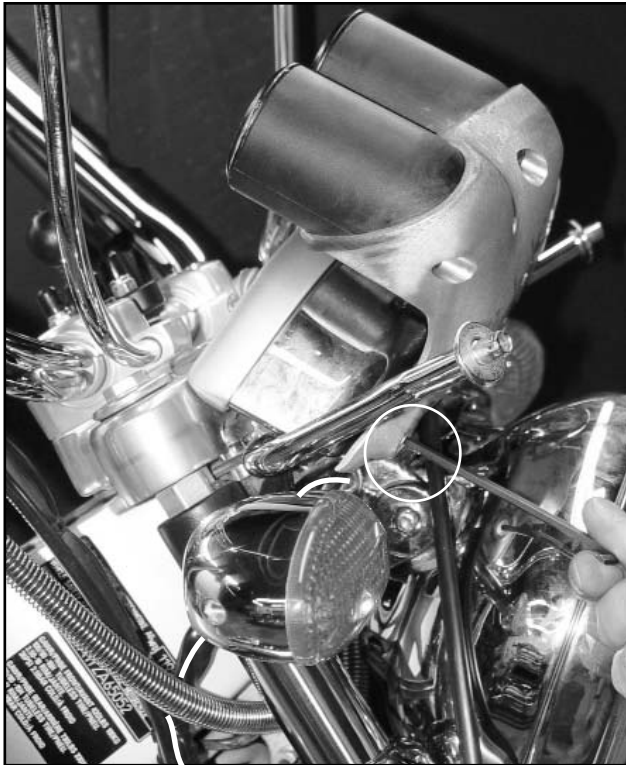

Figure 13
2. Using the M6 x 30 flat head screws, secure the Gauge Bracket, through the Chrome Cover, to the Cover Brackets. (**Hex Key wrench, 5mm**) **Figure 13.**
4. Route the wire harness from the Gauge Bracket below the Bracket, over the right side turn signal and to the inside of the right fork tube. **Figure 13.**